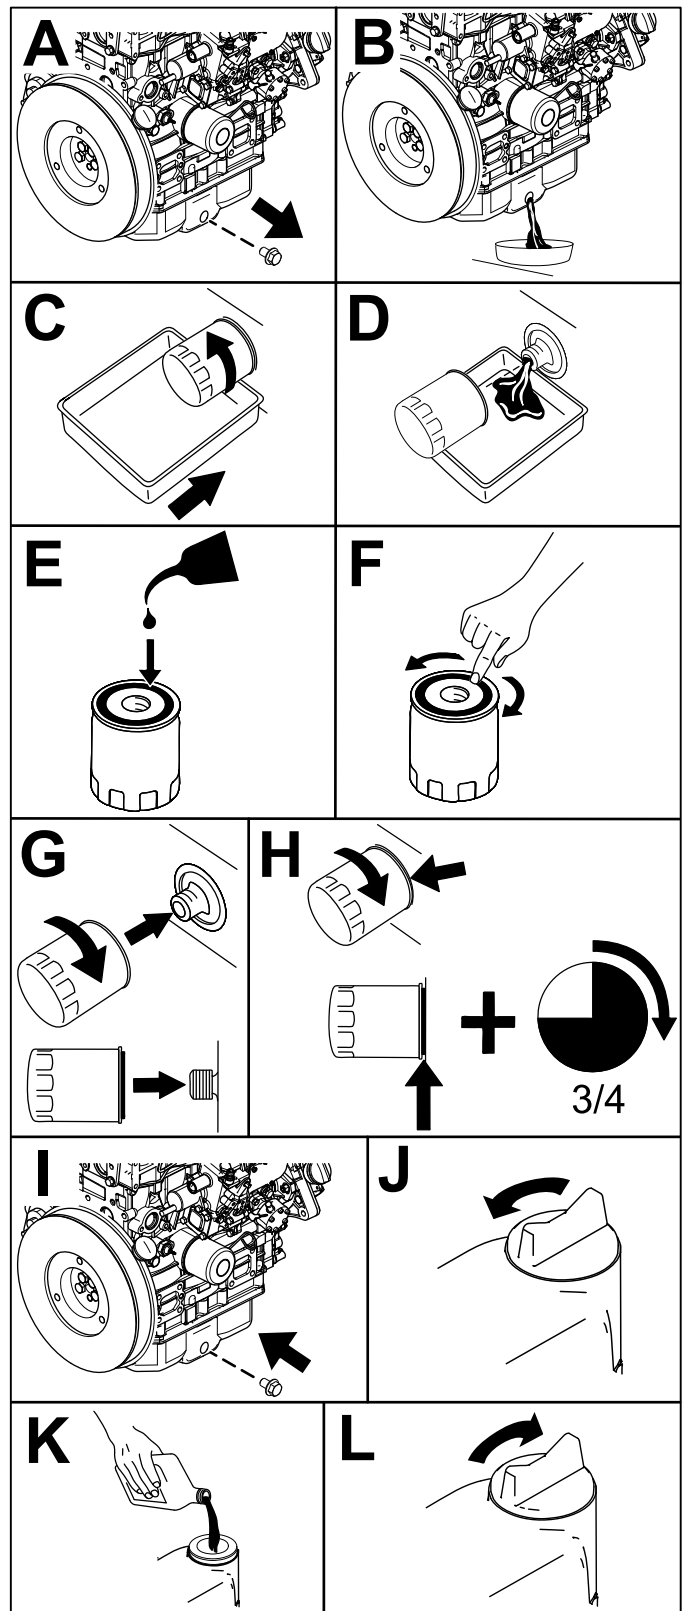

Figure 63
6. Change the engine oil and engine-oil filter as shown in Figure 63.